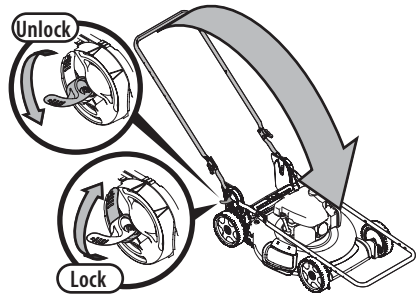

Figure 32
3. Unlock the two handle release levers. See inset Figure 32.
4. Fold the handle forward to the storage position (Figure 32). Do not crimp blade control cable or the drive control cable (if equipped) while lowering the handle.
5. Lock the two handle release levers (inset, Figure 32).
9. To unfold the handle, unlock the two handle release levers (inset, Figure 32) and perform STEPS 5-8 in ASSEMBLY, Vertical Storage Handle on page 9.